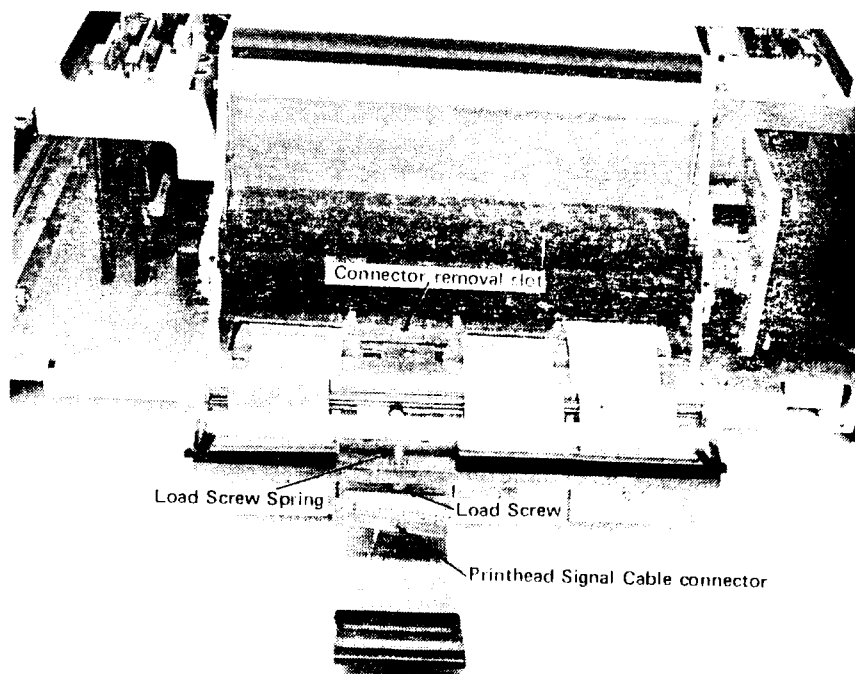

Figure 4-6. Printhead Removal
- D. Loosen the two load screws which are associated with the defective head. If the load screws are removed, take care not to lose the spring inside of each screw (see Figure 4-6).